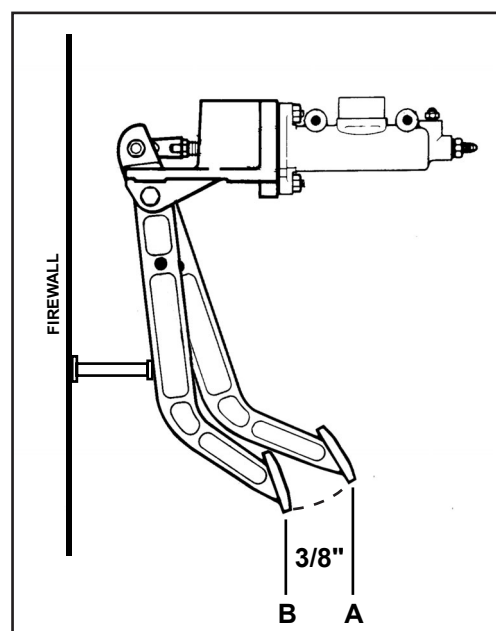

Figure 4
- 3) Depress the clutch pedal slowly until the clutch disengages and the drive wheels or driveshaft can be rotated. This is labeled as **Position A** in **Figure 4**.
- 4) Adjust the pedal stop to allow travel of the clutch pedal 3/8" (9 mm) past **Position A** in **Figure 4** to **Position B**. The distance shown in **Figure 4** is exaggerated for clarity. **Do not stroke the pedal any further than Position B throughout the procedure or you will damage the clutch.**